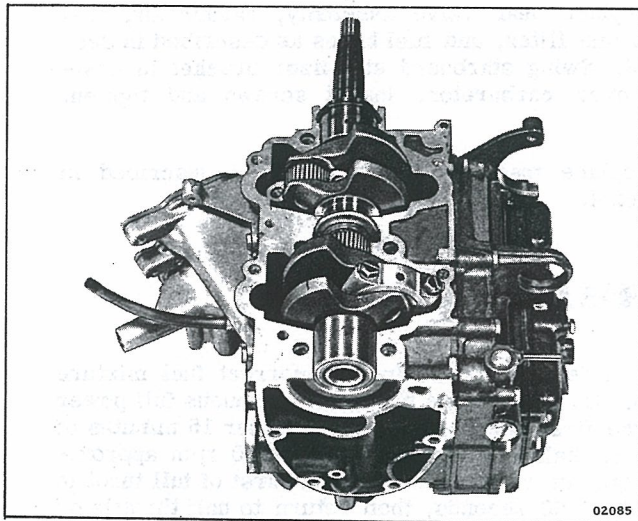

Figure 5-30. Installing Connecting Rod Bearings and Caps
e. Move pistons up so that connecting rod bearings are against crankpins. Using OMC Needle Bearing Grease, place 16 needles on each crankpin and attach connecting rod caps. Be sure the connecting rod dowel pins are in place before attaching connecting rod caps, and the lock plates are on the connecting rod screws. Tighten screws to torque specified in Section 2. See Figure 5-30.